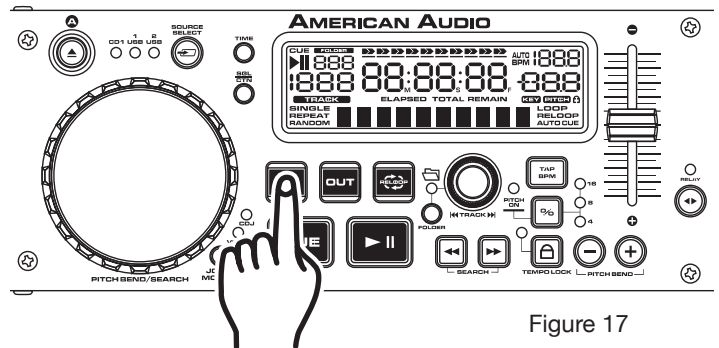

Figure 17
1) Press PLAY/PAUSE BUTTON (16) to activate playback mode.
2) Press the IN BUTTON (11). This will set the starting point of the SEAMLESS LOOP (figure 17). The IN BUTTON LED will blink.